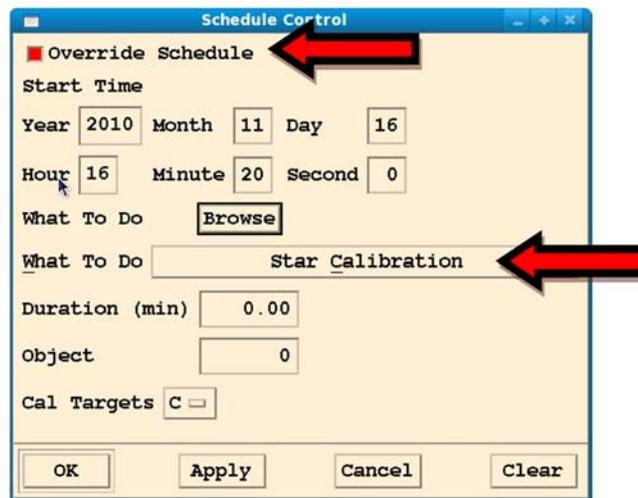

Figure 5-3: Schedule control window
- b. Select the *Override Schedule* button (Figure 5-3).
- c. Open the *What to Do* pull down menu and select *Star Calibration* (Figure 5-3).